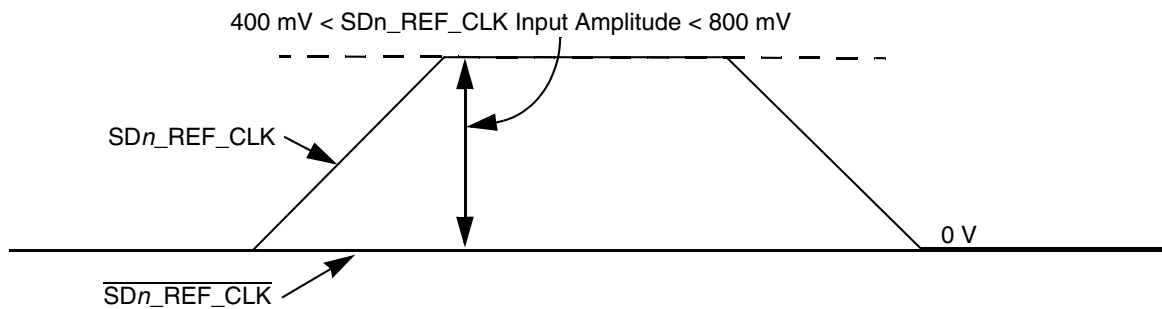

Figure 44. Single-Ended Reference Clock Input DC Requirements
- The SD_n_REF_CLK input average voltage must be between 200 and 400 mV. Figure 44 shows the SerDes reference clock input requirement for single-ended signaling mode.